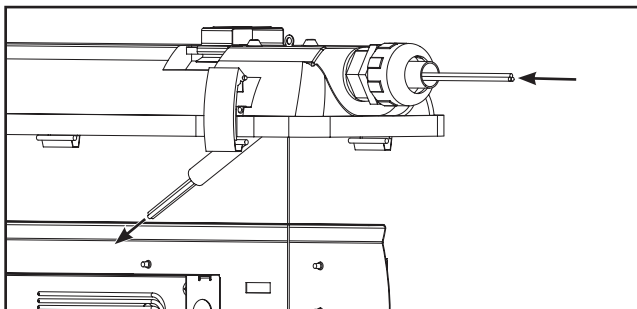

Figure 11.
12. Feed incoming line, neutral and ground wires through conduit fitting and flexible metal conduit. (Figure 11)